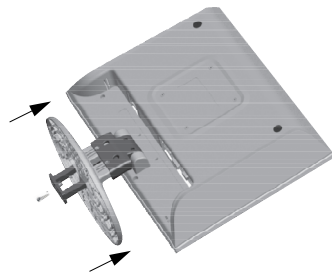
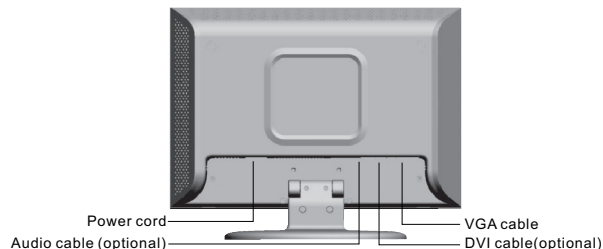

Fig.1
Fig.2
2.1 Base Installation(Fig.1, Fig.2)